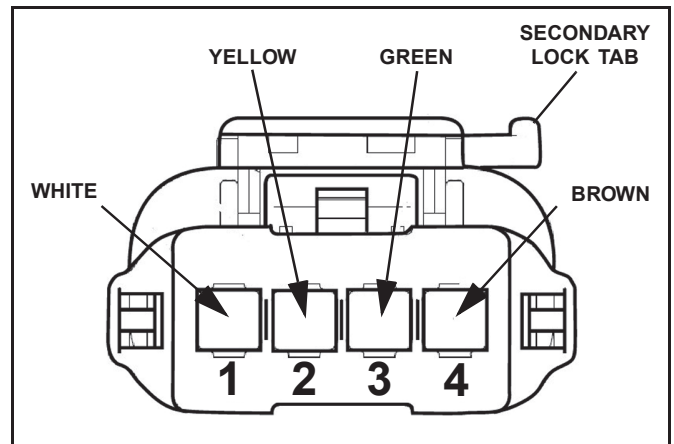

Figure 1-9
7. Remove blue pin lock from female connector. Push the pins on the end of each of the four wires into the back side of the connector (the end with recessed light blue seal). (See Figure 1-9 for pinning).
8. Verify wire placement by connecting the ProControl II™ harness. If wire colors do not line up, verify pin placement (See Figure 1-9).